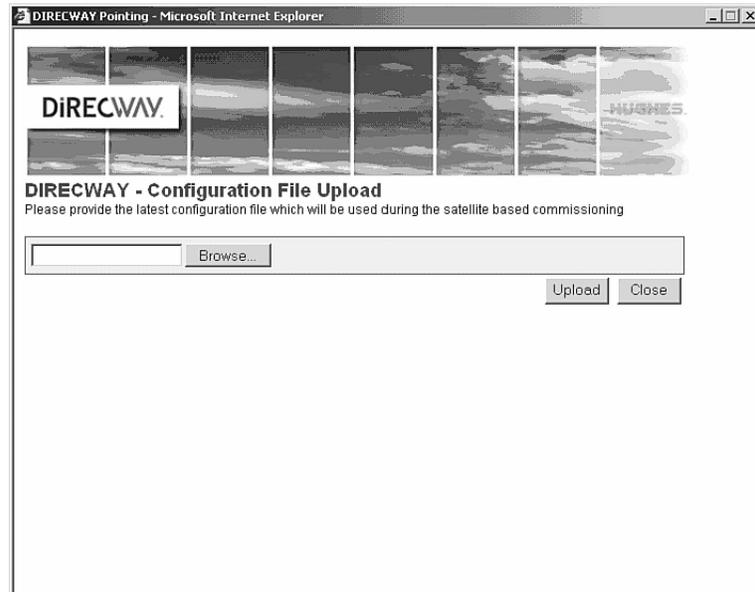

Figure 15: Configuration File Upload screen
4. Click **Browse** on the Configuration File Upload screen shown in Figure 15.